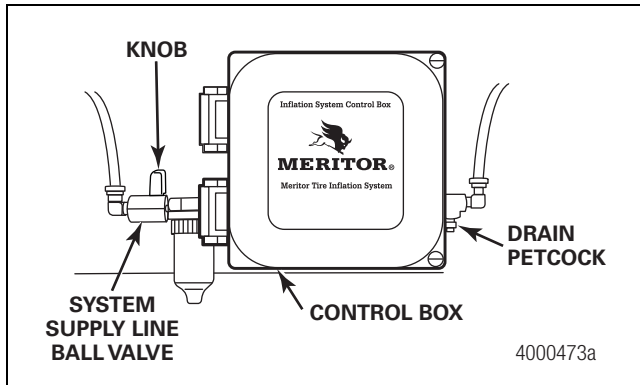

Figure 5.5
1. Turn the supply line ball valve to the closed position at the control box to stop air delivery to the system. When the supply line ball valve is closed, the knob is perpendicular to the valve body. Figure 5.5.
2. Open the drain petcock in order to drain the air from the system. Figure 5.5.